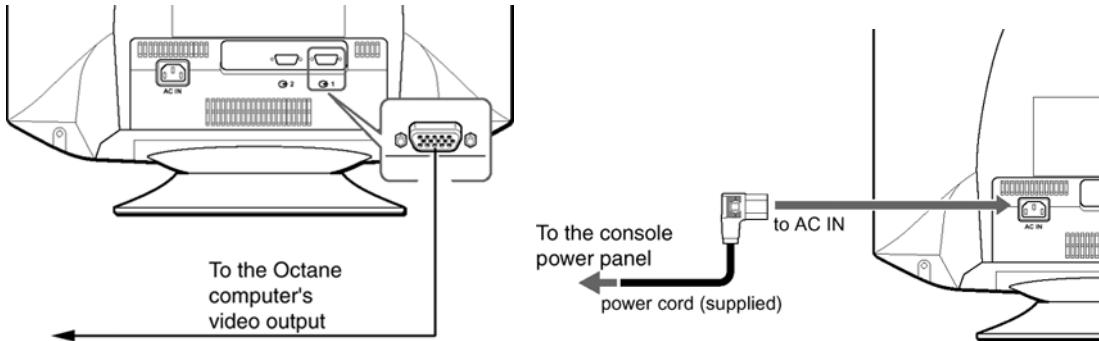

Figure 2-12 Monitor Connections (Sony Model GMD-F520 -- GE #2333243)
- 1.) With the monitor and computer switched off, connect the video signal cable to the monitor's video input (see Figure 2-12) and to the computer's video output.